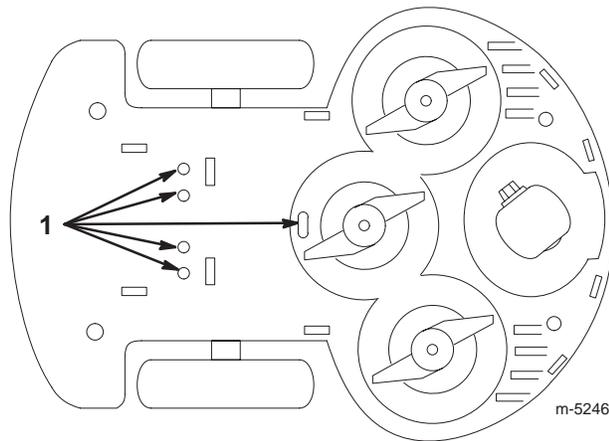

Figure 23
5. Inspect the drainage holes and ensure that they are not blocked (Fig. 23).